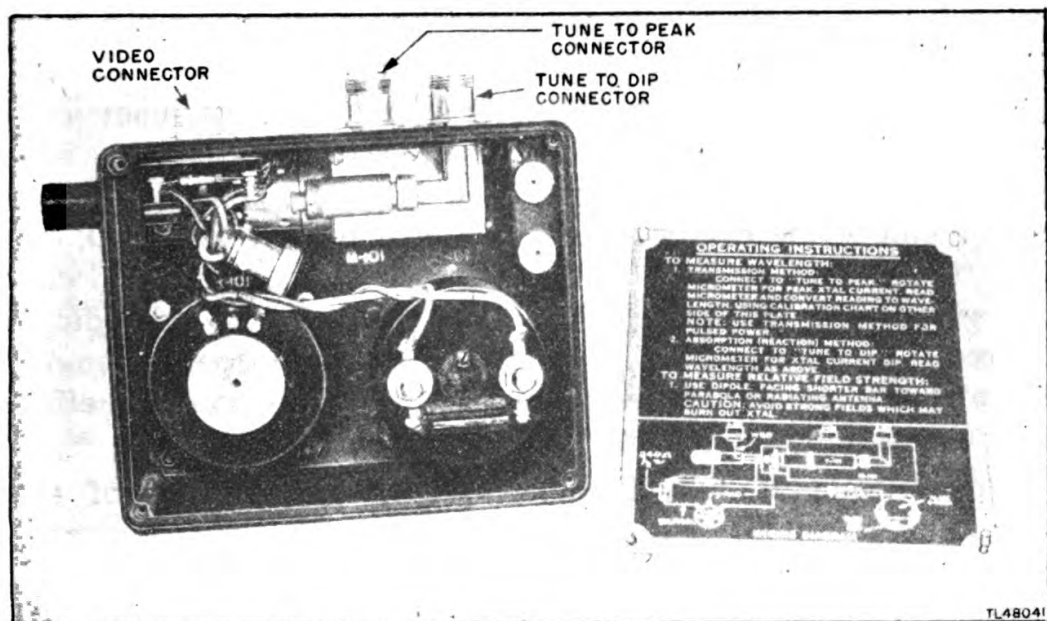

Figure 40. Wavemeter Test Set TS-117/GP, interior view (crystal holder open).
50. WAVEMETER TEST SET TS-117/GP (figs. 40 and 41).
f. To replace a crystal, remove the wavemeter backplate, unscrew the knurled nut on the TUNE TO DIP plumbing, and remove the defective crystal and its holder (fig. 40). Install a new crystal and holder. If a supply of crystals is at hand, a new crystal can be placed in the removed holder. Install the crystal and holder and tighten the knurled nut into place. Replace the wavemeter backplate.